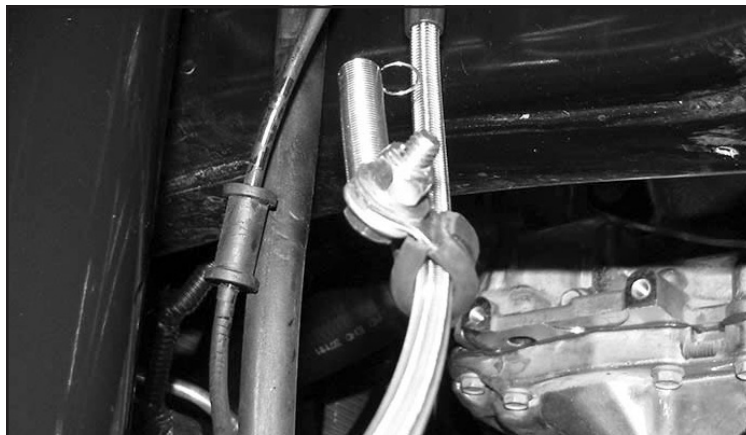

FIGURE 7 - STEP 5
5. Locate the supplied cushioned clamps, 1/4" X 1" bolts, washers, nuts, TEK screws and springs. Install the clamp around the brake using the 1/4" hardware. **NOTE: Install the eyelet of the spring between the clamp and washer. SEE FIGURE 7**